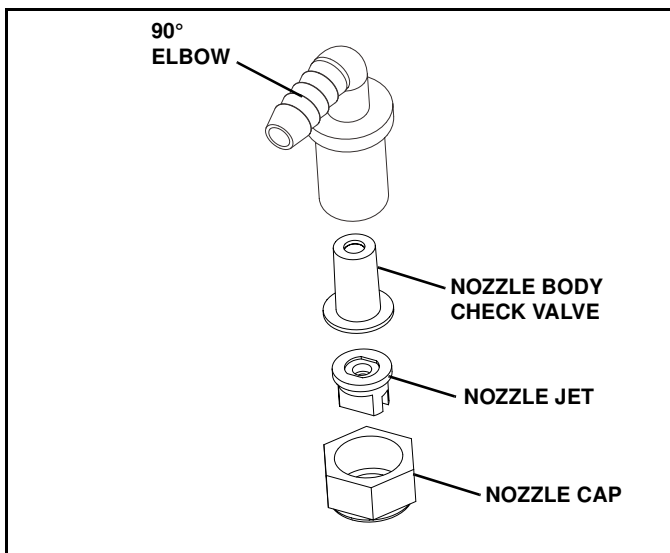

Figure 1-12
8. Assemble the nozzle body check valve into the 90° nozzle body elbow. (See Figure 1-12)